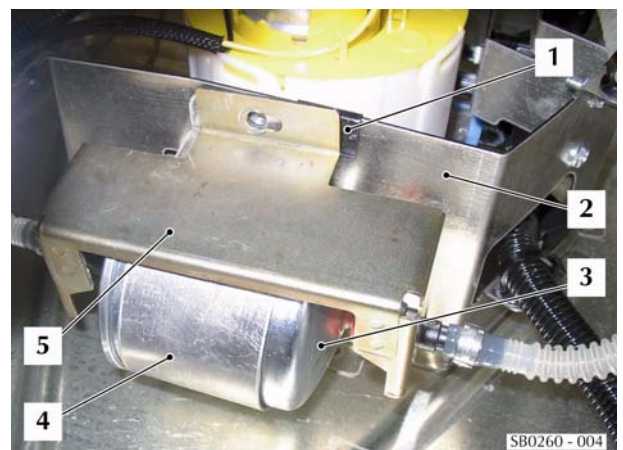

Figure 5
6. Assemble the inner attachment bracket (item 4) for the filter to the filter (item 3) (refer to Figure 5).